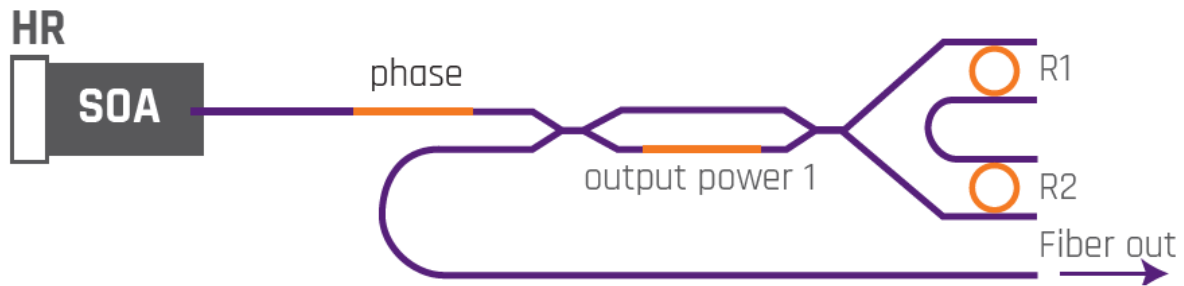

Figure 1 Schematic layout of the laser
The main concept of the laser is shown in Figure 1. The gain chip, which contains the SOA, has a high-reflective (HR) coating on the left-hand side and an anti-reflective interface on the right-hand side where it is connected to a TriPleX™ silicon nitride waveguide chip. The waveguide circuit contains two micro-ring resonators (MRRs), indicated as R1 and R2 with slightly different free-spectral ranges (FSRs) to ensure stable single frequency operation by using the Vernier effect. There are four heaters positioned, one to control the phase of the light in the cavity, two to control the resonant wavelengths of the ring resonators R1 and R2, and one controls the fraction of the optical power coupled out of the cavity. The laser’s frequency can be tuned over a large range by tuning the MRRs.